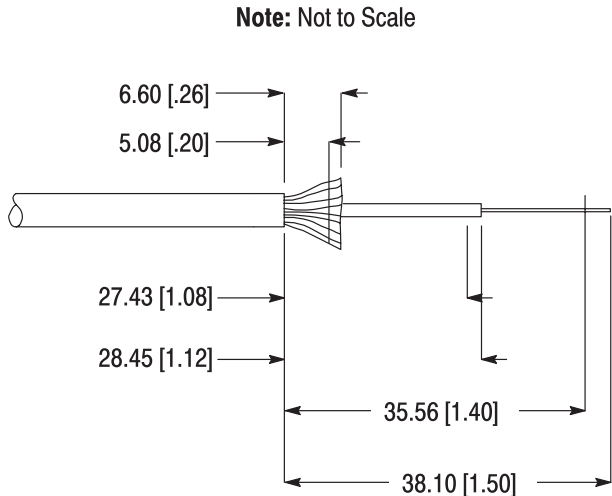

Figure 2
3. Refer to the "OPTIMATE 2.5mm Bayonet (SST)" strip length template (from the cable preparation template kit) or refer to Figure 2, and using the cable stripper, strip the jacket to the dimension shown. Using the shears, trim the strength members to dimension shown. Using the fiber stripper, strip the buffer, then the coating to the dimension shown.